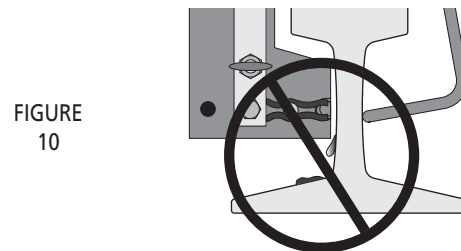

FIGURE 10
**⚠️ WARNING: Correctly positioning the mold against the rail with the welder device is critical for safety and success in making a bond.** There must be no gaps between the lower part of the mold that contains the weld cavity and the rail surface; if a gap is present, the mold should be discarded and a new one used. **See Figure 10.** (Molds can generally be used for up to 50 welds) The exothermic reaction reaches a temperature in excess of 4000°F, therefore great care must be exercised to avoid spillage of the molten metal. Failure to observe this warning may result in molten metal leakage onto the rail with the immediate risk of personal injury, and potentially serious structural damage to the rail. Failure to locate the bond at the neutral axis of the rail may also contribute to premature rail damage. Either could result in a rail break leading to property damage, injury or death to others.